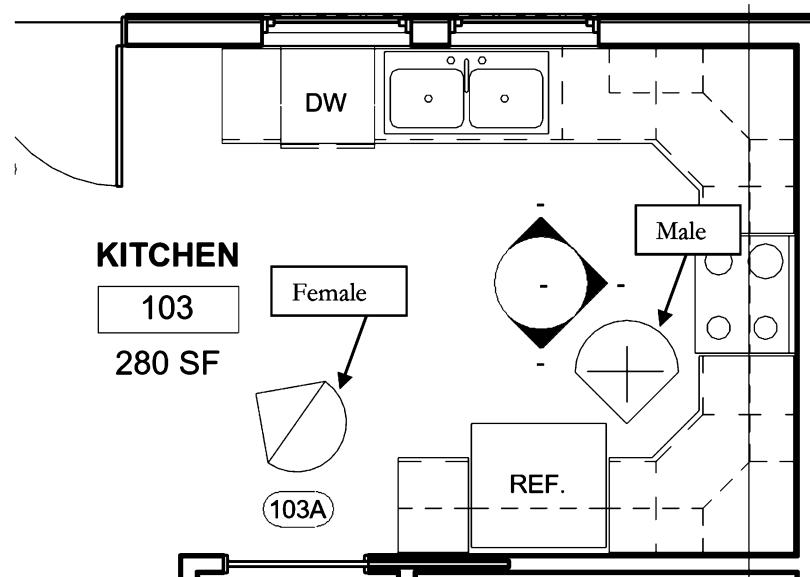

FIGURE 14-5.1 Kitchen – RPC people added
6. Place one **Male** and one **Female**, specified via the *Type Selector*, as shown in **Figure 14-5.1**.
The line in the circle (Figure 14-5.1) represents the direction a person is looking. You simply *Rotate* the object to make adjustments. The image below shows the RPC people that can be placed in your project. **Notice the two families each have multiple types.**